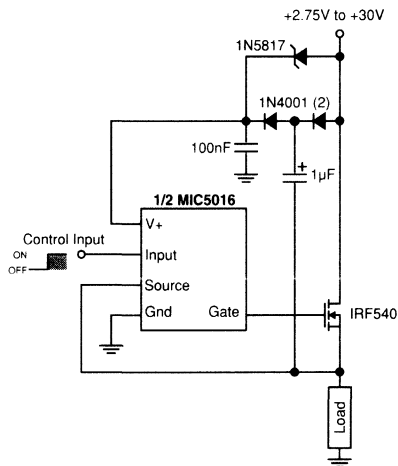

Figure 3. Bootstrapped High-Side Driver
**Bootstrapped High Side Driver** (Figure 3) The turn-on time of a high side driver can be improved to faster than 40µs by bootstrapping the supply with the MOSFET source. The Schottky barrier diode prevents the supply pin from dropping more than 200mV below the drain supply, and improves turn-on time. Since the supply current in the “OFF” state is only a small leakage, the 100nF bypass capacitor tends to remain charged for several seconds after the MIC5016/17 is turned off. Faster switching speeds can be obtained at the expense of supply voltage (the overvoltage shutdown will turn the part off when the bootstrapping action pulls the supply pin above 35V) by using a larger capacitor at the junction of the two 1N4001 diodes. In a PWM application (this circuit can be used for either PWM’ed or continuously energized loads), the chip supply is sustained at a higher potential than the system supply, which improves switching time.